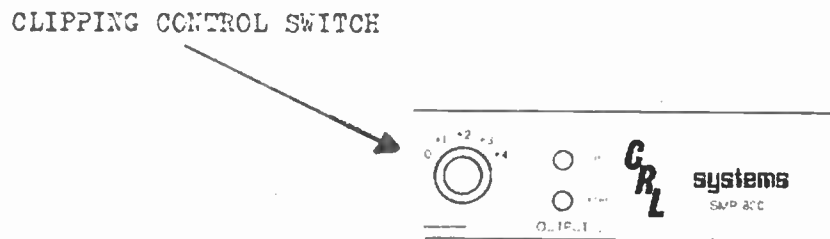

FIGURE 3-3 CLIPPING CONTROL SWITCH LOCATION
3.1.3 Clipping Control Switch (Figure 3-3)